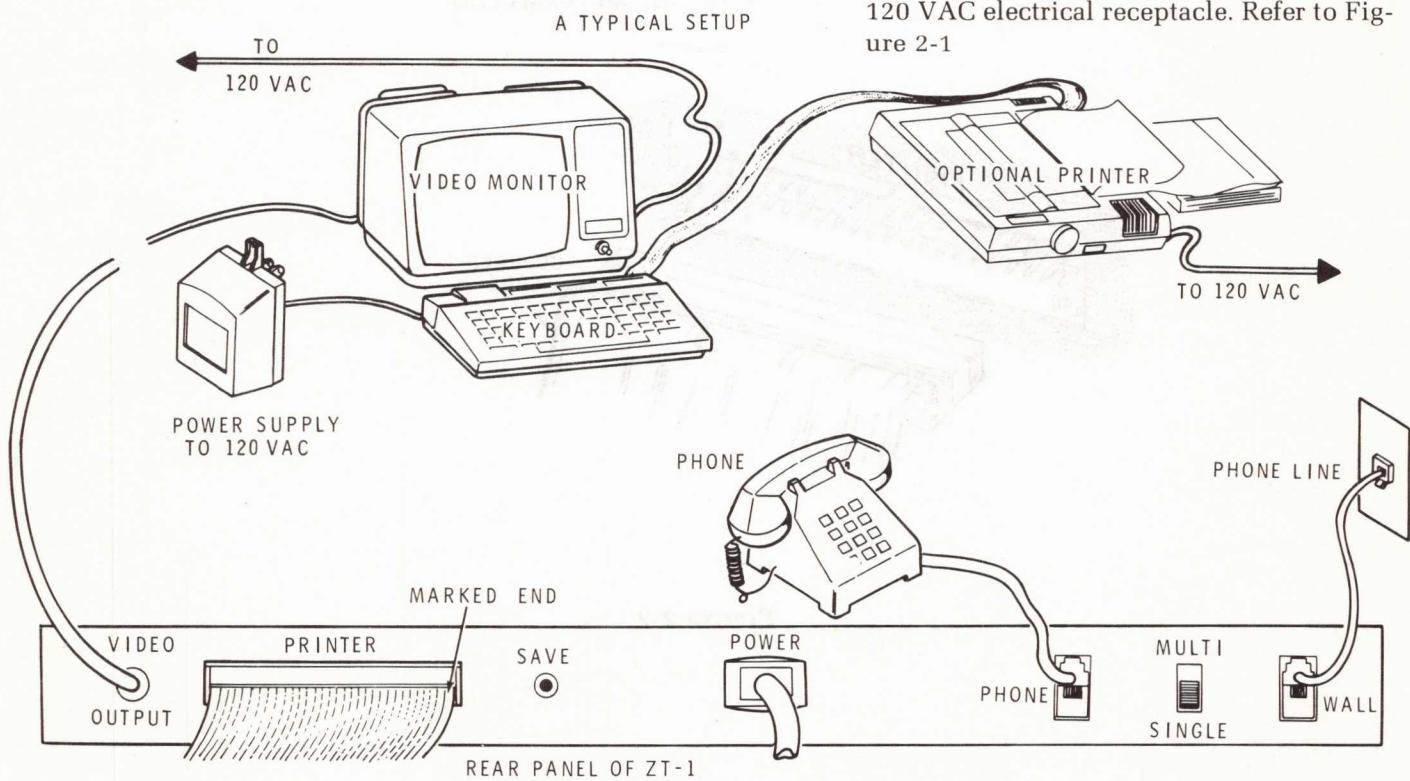
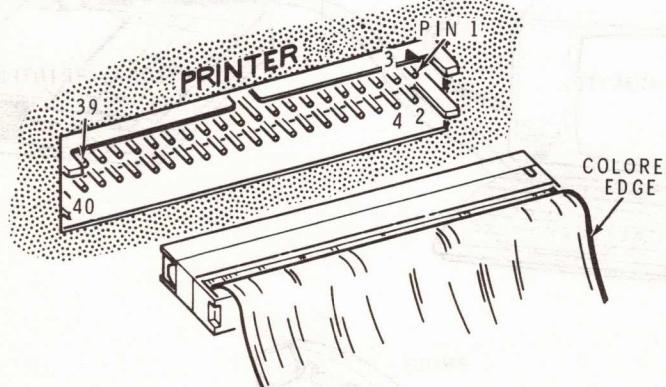

Figure 2-1
Figure 2-2
To interconnect the keyboard, monitor, telephone and optional printer, refer to the following steps and Figures 2-1, 2-2 and 2-3.
- Disconnect the modular plug from the telephone base and plug it into the WALL jack on the rear of the keyboard. Refer to Figure 2-1.
- Connect the modular phone cable (supplied) to the telephone base and to the PHONE jack on the rear of the keyboard. Refer to Figure 2-1.
- Connect the cable from the monitor to the VIDEO OUTPUT jack on the rear of the keyboard. Refer to Figure 2-1.
- Connect the keyboard power supply cable to the POWER socket on the rear of the keyboard. Plug the power supply into an 120 VAC electrical receptacle. Refer to Figure 2-1
- If you use a line printer, connect its cable to the PRINTER socket on the rear of the keyboard and connect its power cord to an electrical outlet. NOTE: The ZT-1 printer port will accept a 3M-3417 series plug (or equivalent). Refer to Figure 2-1 for the keyboard printer socket location. Refer to Figure 2-2 for printer connector pin identification.